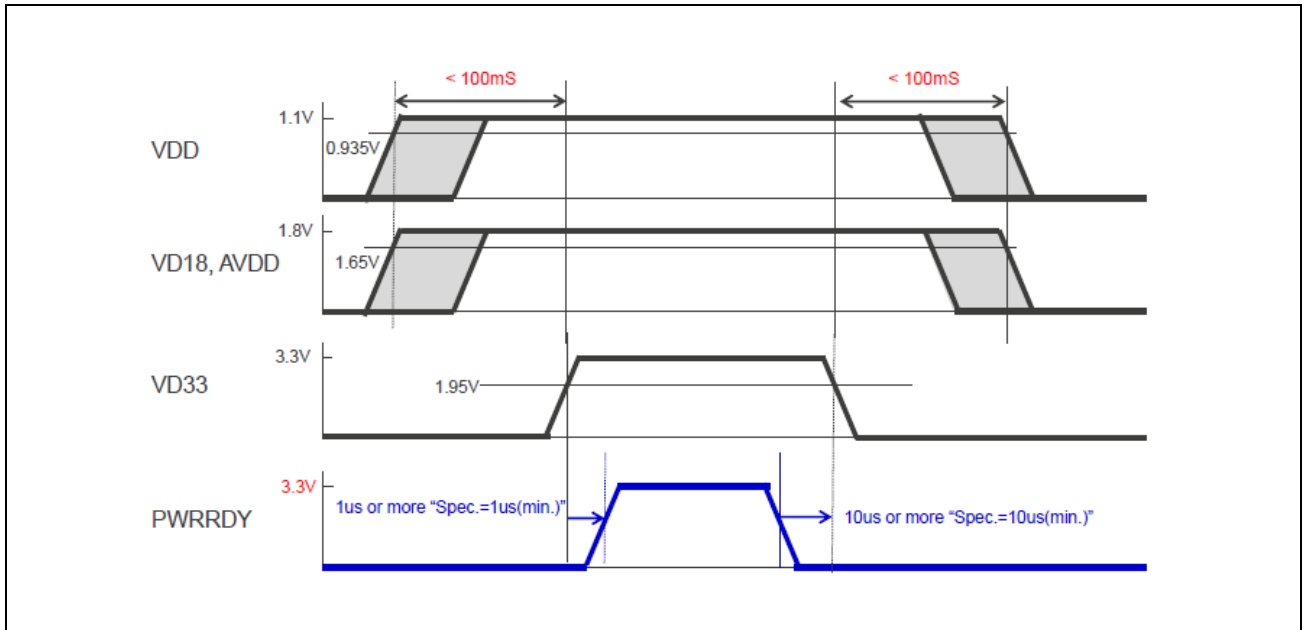

Figure C.2 USB_PWRRDY timing chart
6. Please control USB_PWRRDY in accordance with the sequence that is shown as **Figure C.2**.